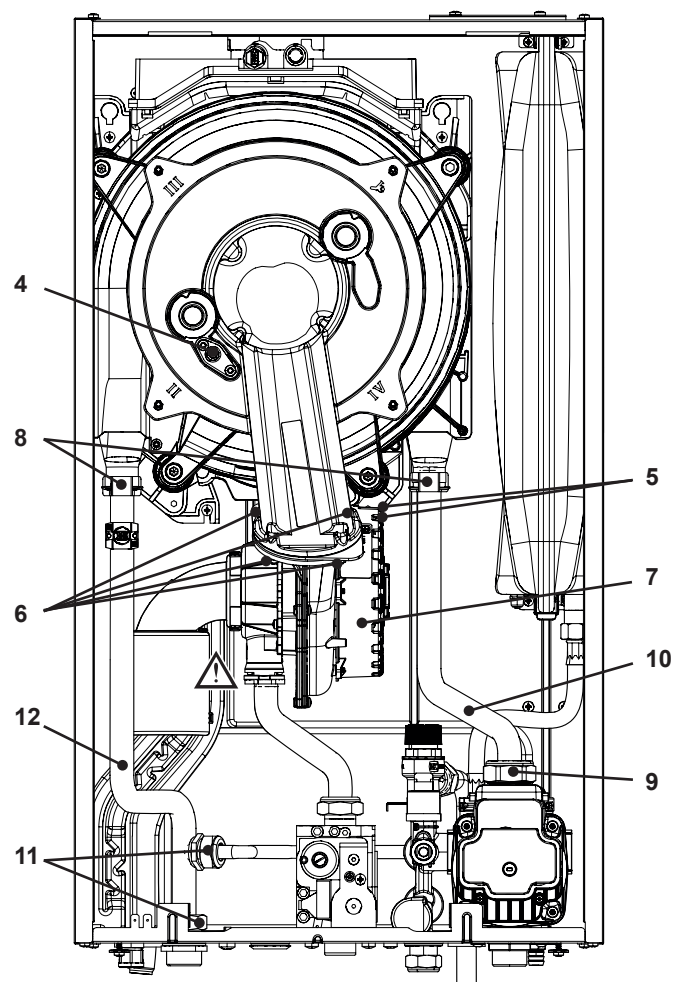

Figure 5.2
- 4 Disconnect the fan connector "5" by pressing the plastic hook placed on the side of the connector (Figure 5.2).
- 5 Unscrew the nuts "6" (Figure 5.2).
- 8 Remove the clips "8" (Figure 5.2).
- 9 Loosen the connection "9" and slightly move the pipe "10" upwards, turn it towards left (Figure 5.2) and then move the pipe downwards freeing it from the Condensing heat exchanger.
- 10 Loosen the connections "11" and slightly move the pipe "12" upwards, turn it towards left (Figure 5.2) and then move the pipe downwards freeing it from the Condensing heat exchanger.
Ensure to tighten the nuts "6" - Figure 5.2 firmly.